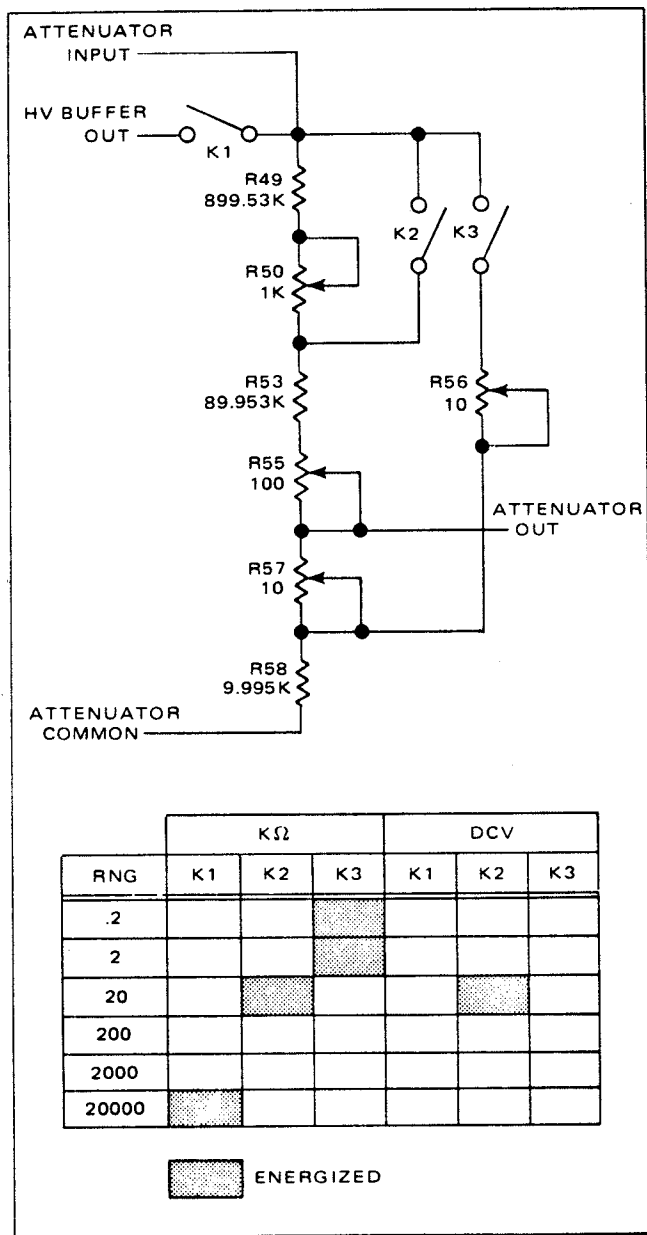

Figure 4.8 - Attenuator
4.3.7.1 This circuit is shown in simplified form in figure 4.8. The attenuator performs the following functions; 1) attenuation of input measurement voltages on the 10, 100, and 1000 volt dc ranges, 2) scales down the ohms current source when the instrument is on the Kohms ranges, and 3) the attenuator contains a series resistance string with pick-off points selected by range relays. The attenuator, in the 10 and 100 DCV ranges, divide the HV Buffer output by 10:1 and 100:1, respectively, to provide full scale inputs to the isolator of  $\pm 1V$  DC. The attenuator, for the 1000 range, is preceded by a  $9 M\Omega$  resistor on the main PCB to provide a 1000:1 reduction in voltage from the measurement input to the isolator input.